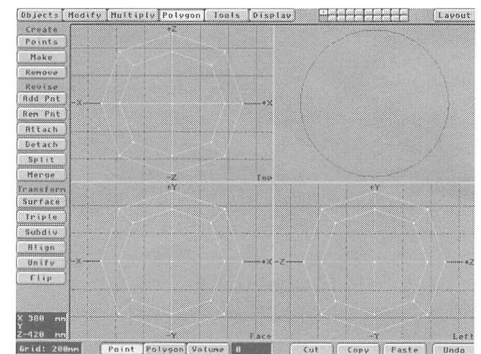

Figure 2
- If **Metaform** is not already highlighted, select it by clicking on it. Then click on OK. Your cube has gone through a one-level transformation with Metaform and should now look like Figure 2. Click **Metaform** two more times. Your cube has turned into a sphere.